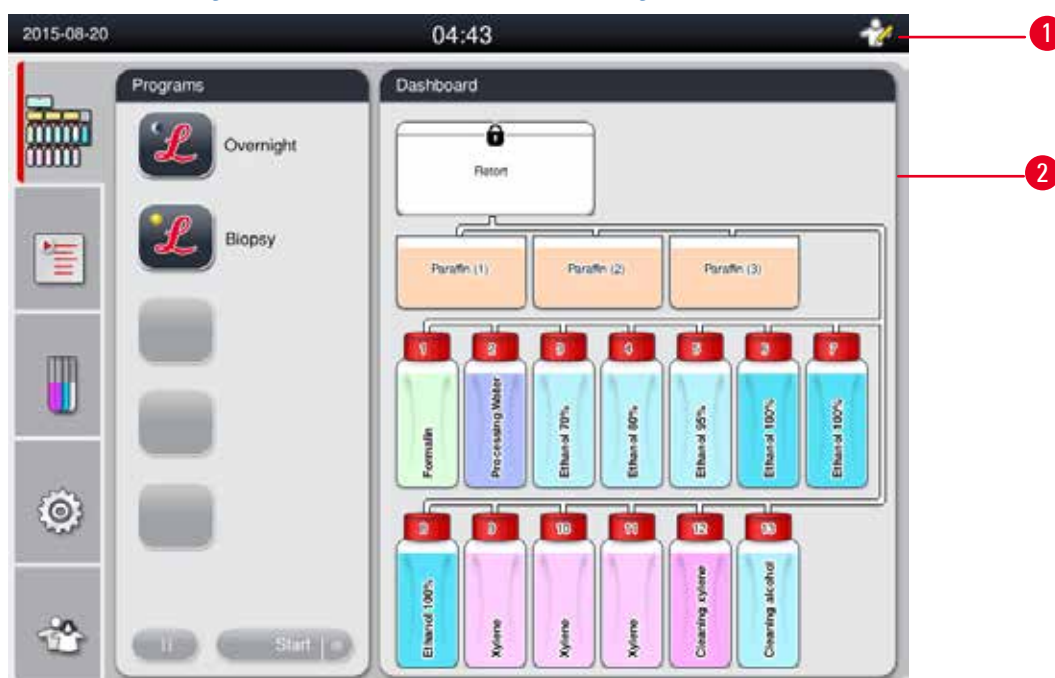

Fig. 27
4. After that, the application window (→ "Fig. 27") will be displayed, which consists of the status bar (→ "Fig. 27-1") and the main window (→ "Fig. 27-2").